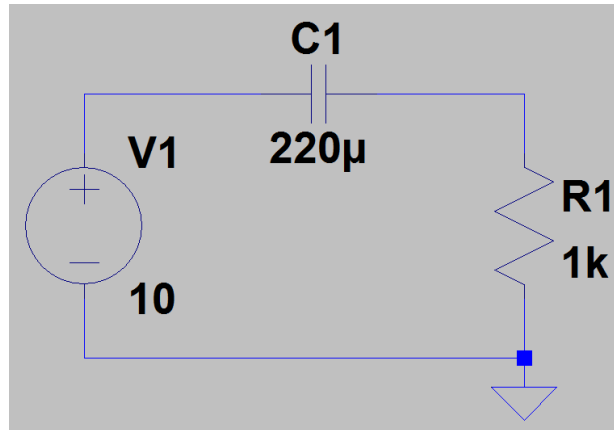

Figure 2: A simple RC circuit.
Transient analyses will become much more important later in the term when we look at resistor-inductor (RL) and resistor-capacitor (RC) circuits, shown in Figure 2.
It is the time taken for the voltages and currents to reach a certain percentage of their final values. Can you use what you have learnt about LTspice to implement the circuit shown in Figure 2 and find what percentage this is?